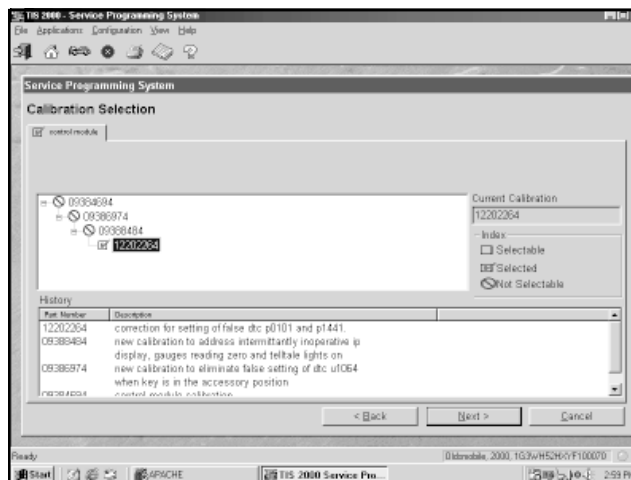

Figure I-24, Calibration Selection screen
8. The Calibration Selection screen appears (Figure I-24).